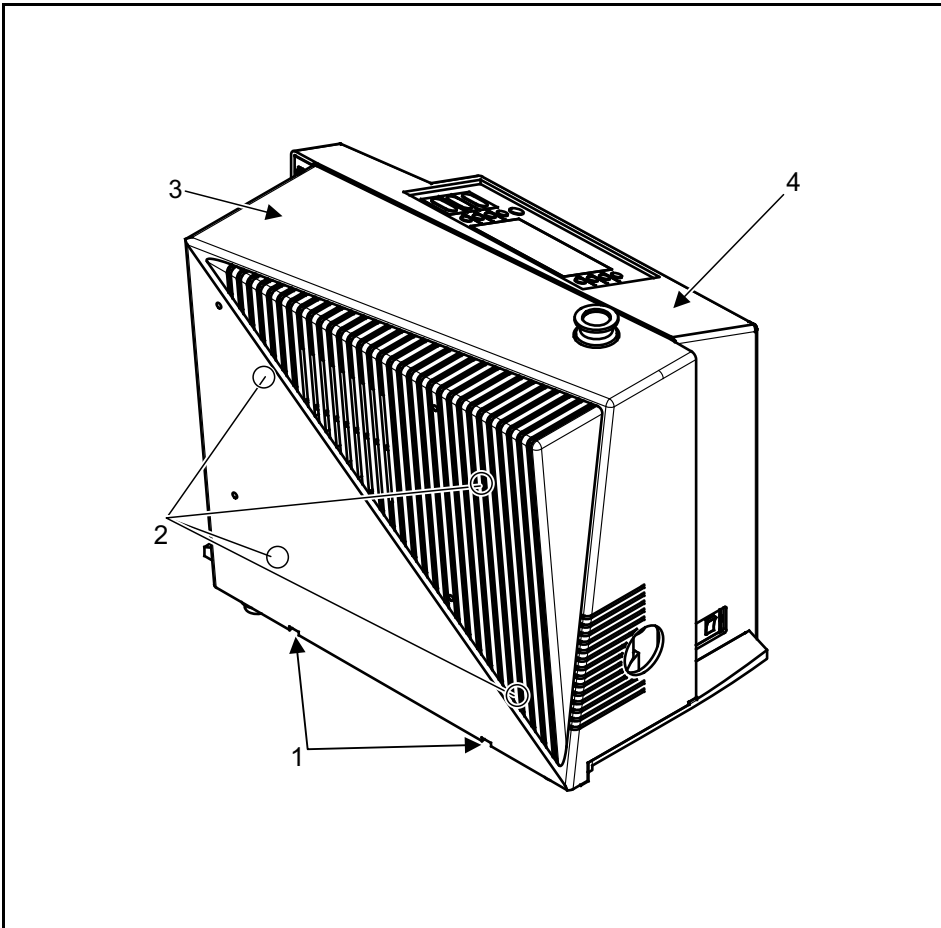

Fig. 40 Back view of the PHOENIX L300i
8. Removing the cover for the electronics section by removing the four Phillips screws (Fig. 40/2).